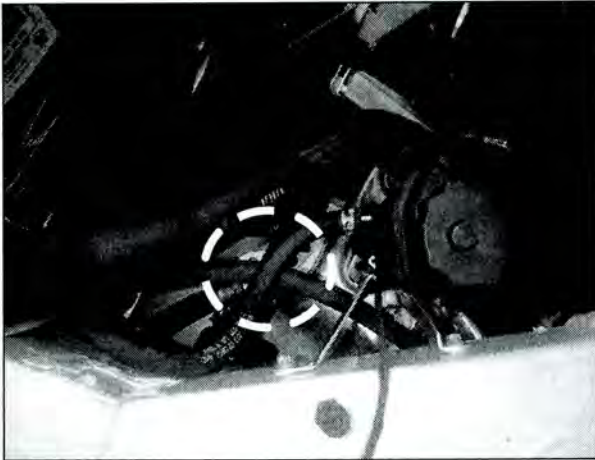

Figure 1
1.  Check minimum distance and condition of power steering lines (Figure 1):